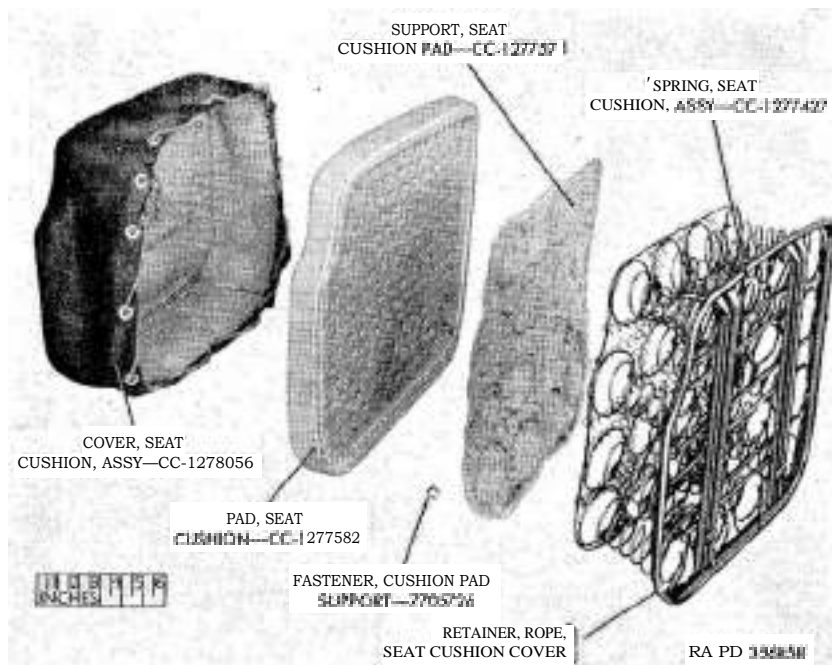

Figure 185. Seat cushion assembly-exploded view.
c. Remove Seat Cushion Cover Assembly, Seat Cushion Pad, and Seat Cushion Pad Support From Seat Cushion Spring Assembly (fig. 185).
- (1) If inspection (par. 225a) reveals that either the seat cushion cover assembly, seat cushion pad, or seat cushion spring assembly requires replacement, untie the rope, which fastens the cushion cover assembly to the spring assembly, and remove cover. Remove cushion pad.
- (2) Remove cushion pad support fasteners, which attach seat cushion pad support to the spring assembly, and remove support.
e. Remove Seat Back Cushion Cover Assembly, Seat Back Cushion Pad, and Seat Back Cushion Pad Support From Seat Back Cushion Spring Assembly (fig. 185).
- (1) Untie rope, which attaches the seat back cushion cover assembly to the spring assembly, and remove cover. Remove seat back cushion pad.
- (2) Remove cushion pad support fasteners, which attach seat cushion pad support to the spring assembly and remove support.
- (1) Inspect seat cushion assembly (A) for worn or torn cover (*fig. 185*). If either of these conditions exist, replace cover (pars. 224c and 226c).
- (2) Inspect seat cushion pad (*fig. 185*) for deterioration or other visible damage. Replace pad if not in good condition (pars. 224c and 226c).
- (3) Inspect seat cushion pad support (*fig. 185*) for damage and wear. If either of these conditions exist, replace support (pars. 224c and 226c) .
- (4) Inspect seat cushion spring assembly (*fig. 185*) for sagged, broken, or misplaced springs or broken spot welds. If any of these conditions exist, replace cushion spring assembly (pars. 224c and 226c) .
- (1) Position right seat regulator assembly (L), with hinge toward front, on seat board. Install three 5/16-inch external internal dished lock washers (G) and 5/16-24NF nuts (F) . Tighten nuts.
- (2) Install regulator control rod (K) on right regulator assembly.
- (3) Attach left regulator assembly (M), with hinge toward front, to regulator control rod (K). Position left regulator assembly on seat board. Install three 5/16-inch external internal dished lock washers (G) and 5/16-24NF nuts (F). Tighten nuts.
c. Install Seat Cushion Support, Seat Cushion Pad and Seat Cushion Pad Cover Assembly on Seat Cushion Spring Assembly (fig. 185).
- (1) Place seat cushion pad support on seat cushion spring assembly and attach support to outside frame of spring assembly with cushion pad support fasteners. The fasteners can be inserted through the support and crimped around spring assembly frame with pliers.
- (2) Place seat cushion pad on seat cushion spring assembly.
- (3) Place seat cushion cover assembly over pad and spring assembly and fasten cover to bottom of spring assembly with rope. Place rope under seat cushion cover rope retainers (*fig. 185*), which are a part of the spring assembly. Tighten rope so that cover is a snug fit over the pad and spring assembly and tie rope.
d. Install Seat Back Cushion Pad Support, Seat Back Cushion Pad, and Seat Back Cushion Cover Assembly on Seat Back Cushion Spring Assembly (fig. 185) .
- (1) Place seat back cushion pad support on seat back cushion spring assembly and attach pad to outside frame of spring assembly with cushion pad support fasteners. Fasteners can be inserted through support pad and crimped around the spring assembly frame with pliers. Place seat back cushion pad on spring assembly.
- (2) Place seat back cushion cover assembly over pad and spring assembly. Loop rope around seat back cushion cover rope retainers, which are a part of the spring assembly. Tighten rope until cover is a snug fit on spring assembly and tie rope,